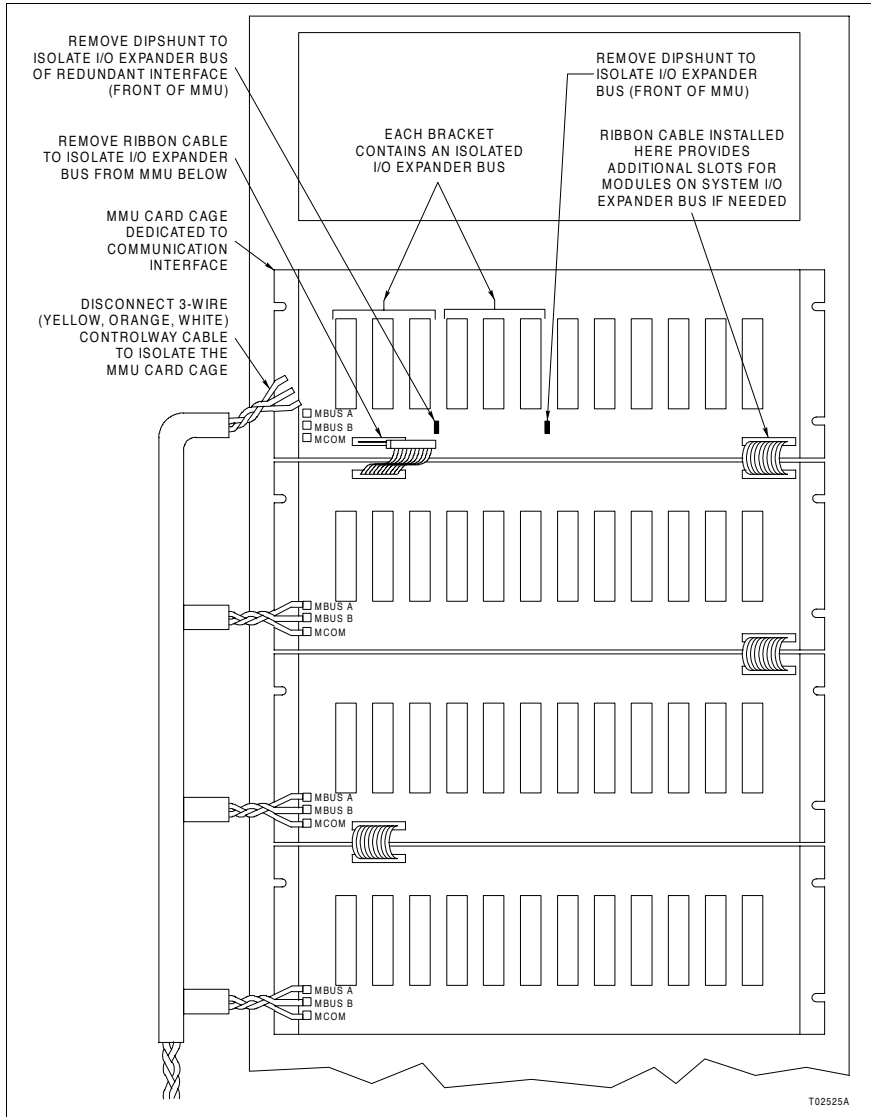

Figure 3-4. Isolated Module Mounting Unit Example
2. Disconnect the Controlway cable from the module mounting unit to be isolated for the interface. Figure 3-4 shows an example of how the Controlway is disconnected to isolate Controlway on the module mounting unit.
3. There is no set procedure for isolating the I/O expander bus because system architectures differ so widely from system to system. The example in Figure 3-4 shows one way to isolate the I/O expander bus. Using the methods shown in Figure 3-4 (i.e., by removing a dipshunt or a ribbon cable), isolate an I/O expander bus for each interface.